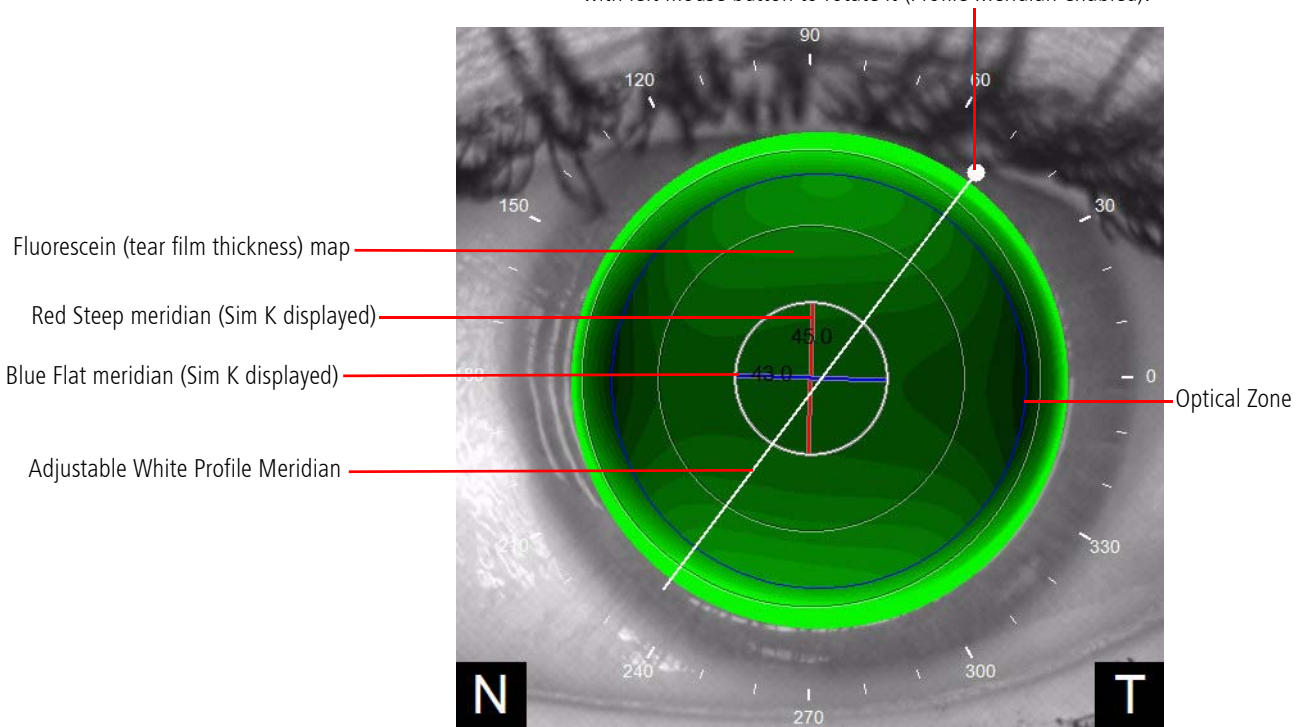
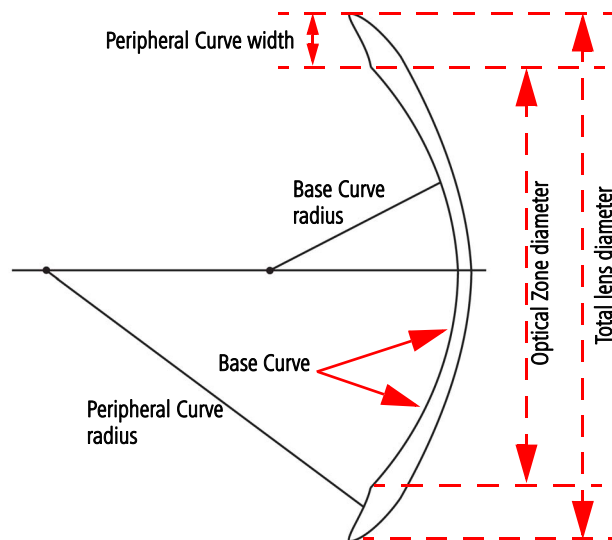

Figure B-6 Fluorescein Map (Sim Ks Displayed)
Figure B-10 Spherical Bicurve Lens Design Diagram
The Fluorescein Map (Figure B-6) is a green color map of simulated fluorescein tear film layer thickness (between the back surface of the contact lens and the cornea) for the current selected lens design shown over the Ring image of the eye. The shades of green correspond to the values (μm) shown on the scale at the left of the screen—darker green areas have small tear film thicknesses while brighter greens areas have larger tear film thicknesses. The software will initially place the lens at the geometric center of the cornea (or the corneal vertex if the geometric center location is not available). You can manually move the lens by clicking inside the lens and dragging up/down and/or left/right.
The white Profile Meridian and white Tear Film Thickness Profile Graph are only displayed when **Profile Meridian** is enabled for display (see Overlay on page B-9). The default white Profile Meridian is the flat axis value (note that it initially covers the display of the flat blue meridian if Sim Ks are displayed). The white Profile Meridian can be rotated to any angle (0 – 360 degrees) by clicking on the white circle at the end with the left mouse button and dragging (Figure B-6). The profile graph and meridian values are updated automatically. This allows the doctor to judge the fit of the chosen lens based on the simulated fluorescein pattern in any meridian (axis) that is desired. The rotated meridian value is not saved when saving lens.
The Overlay section allows you to select which overlays display on the Fluorescein Map. A checkmark means the selected overlay will be displayed. See Overlay on page 7-6 for information. **Sim K** toggles the display of the red steep meridian and blue flat meridian, and their values. **Profile Meridian** (or **Show Profile Meridian** on pop-up display options) toggles the display of the white Profile Meridian on the Fluorescein map (see Fluorescein Map on page B-6). The **Optical Zone** is the central portion of the contact lens calculated from the base curve, and typically comprises from 65% to 80% of the lens diameter (displayed as a dark blue circle) (see Figure B-6 and Figure B-10). Beyond the Optical Zone are the peripheral curves (Peripheral Curves \(Custom Lens only\) on page B-15). **Tear Layer Thickness** displays the tear film layer thickness (μm) just inside the optical zone boundary at both ends of the steep and flat meridians.
Right-clicking on the map scale (see Figure B-6) to the left of the Fluorescein Map will pop up a scale menu where you can select the scale for the green Fluorescein Map tear film layer thickness. The shades of green that correspond to the values (μm) shown on the scale will change on the Fluorescein Map.
Base Curve (BC) is the curvature of the central portion of the back surface of the lens. Figure B-10 displays a bicurve lens design which has one base curve and one secondary peripheral curve. Most rigid corneal lenses used today are either bicurve or tricurve. The back vertex power is the effective power of the lens measured from the back surface.
For Custom lens, checking **Peripheral Curves** adds Secondary and Third Curve Radius and Width to edit. Peripheral Curves, which typically encompass the outer 15 to 25% of the lens, surround the optical zone of the lens. See Figure B-10.